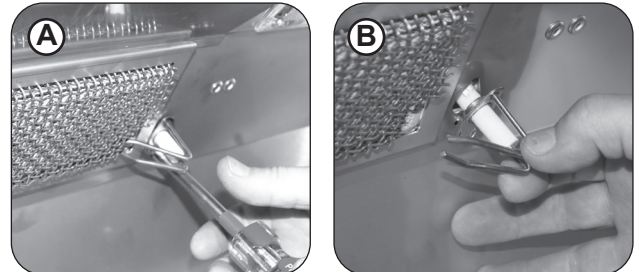

Fig. 46-2 Remove electrode
1. Remove the backburner electrode mounting screw (1/4" hex) (see Fig. 46-2, A) and loosen the electrode. Carefully pull the electrode assembly slightly from the grill wall to give enough clearance for the backburner to be removed (see Fig. 46-2, B).